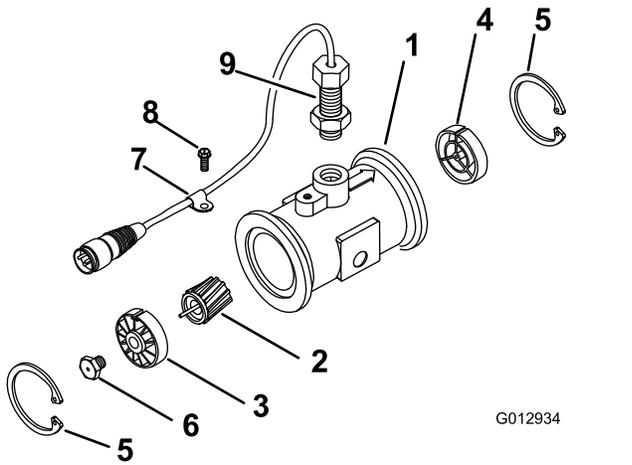

Figure 42
3. Remove the retainer ring on the upstream side (Figure 42).